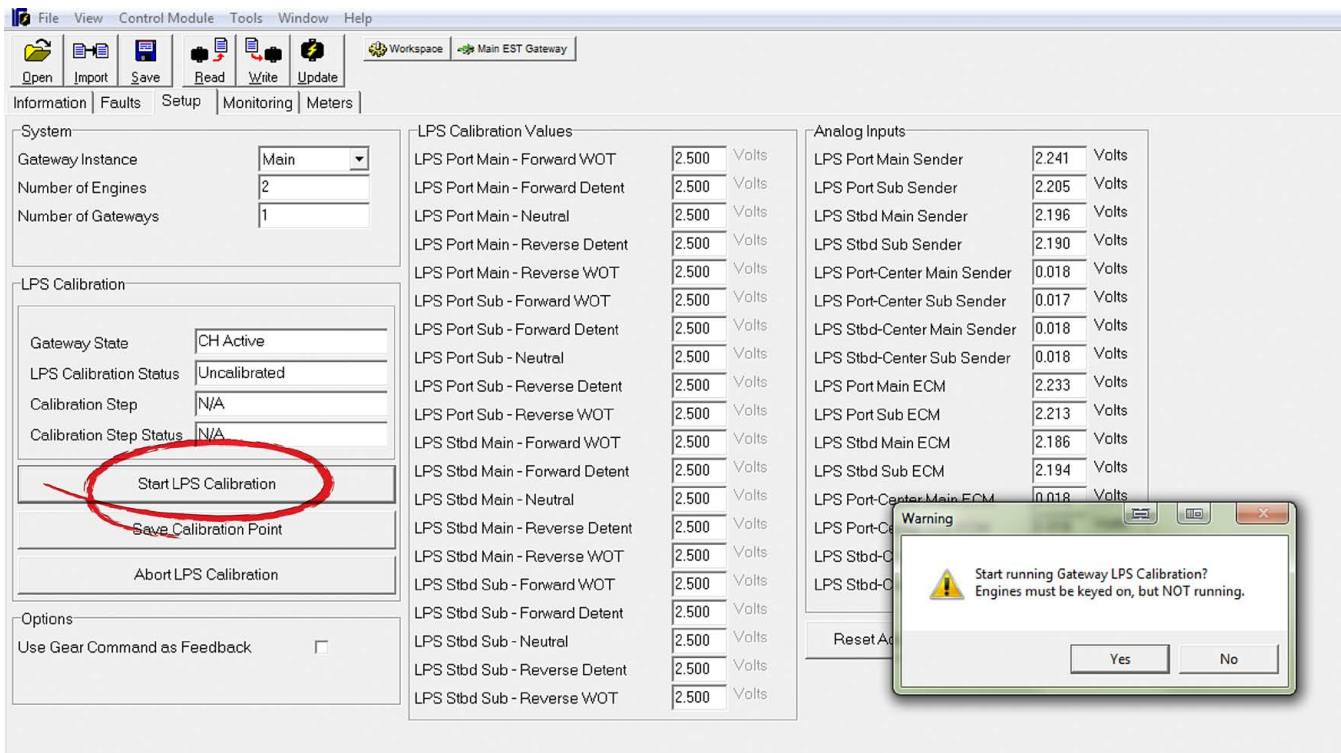

Figure B-21. Start LPS calibration.
1. Click **Start LPS Calibration** with the engines keyed on but *not* running. Click **Yes** to acknowledge the Warning dialog. See figure B-21.